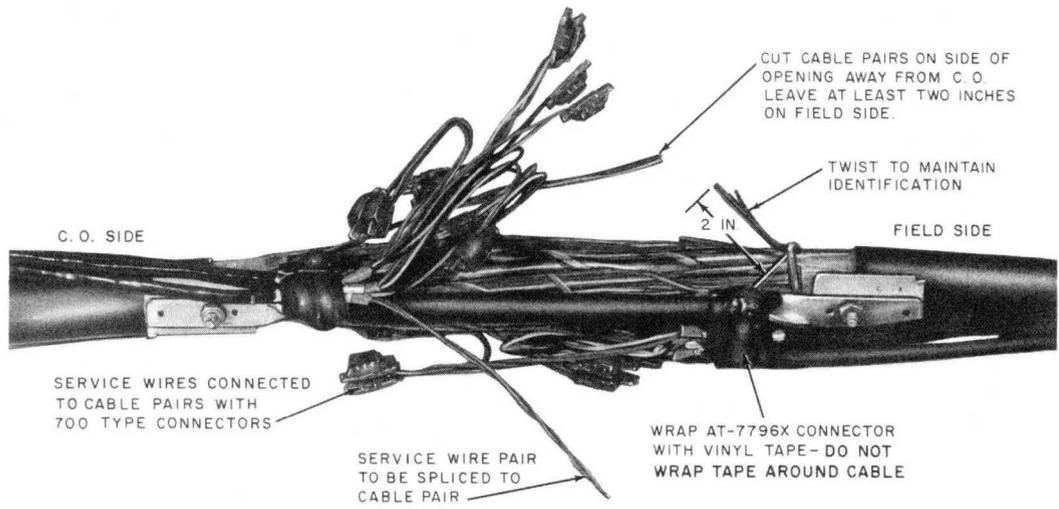

Fig. 5—Splicing Cable Pairs—13-Type Closure
3.03 Splice the service wire to the cable pairs using 700-type connectors **only**, as shown in Fig. 5 or 6.